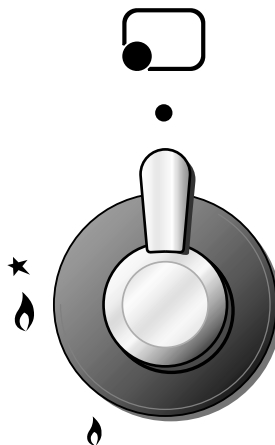

Fig. 4.3
Each hob burner is controlled by a separate gas tap operated by a control knob (fig. 4.3) which has 3 positions marked on the knob, these are:
- 1) Lightly press and turn the knob anti-clockwise, and make the symbol  printed on the control panel to match with the indicator on the knob (fig. 4.3).